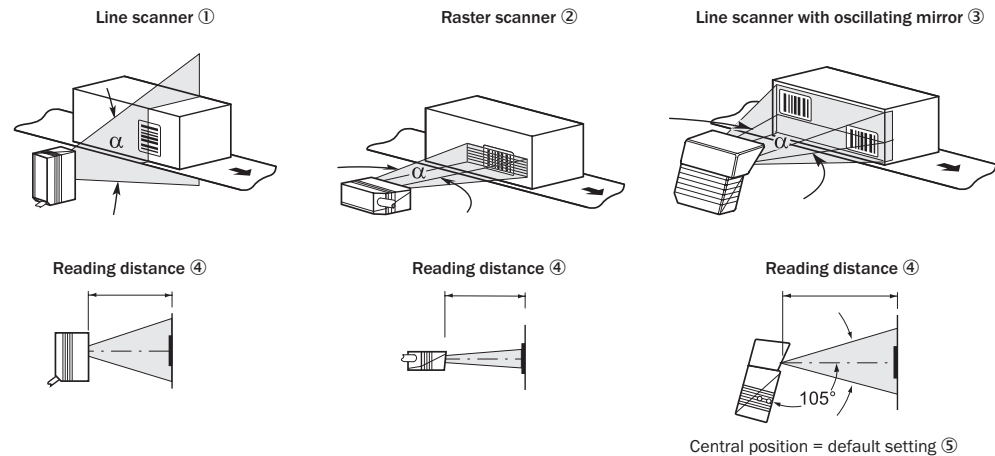

Figure 16: Allocation of scanning line(s) to bar code and conveyor direction
- Reading distance to the bar code and aperture angle α (see figure 16, page 31).